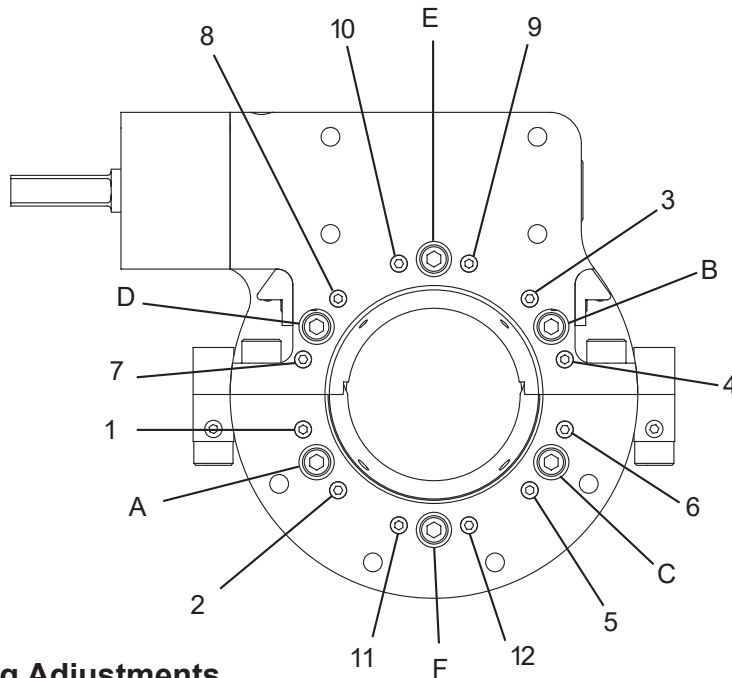

Figure 5: Bearing Adjustments
1. Loosen the main bearing locking screws one full turn with the 7/64" wrench. The locking screws are labeled A through F. Refer to Fig.5.